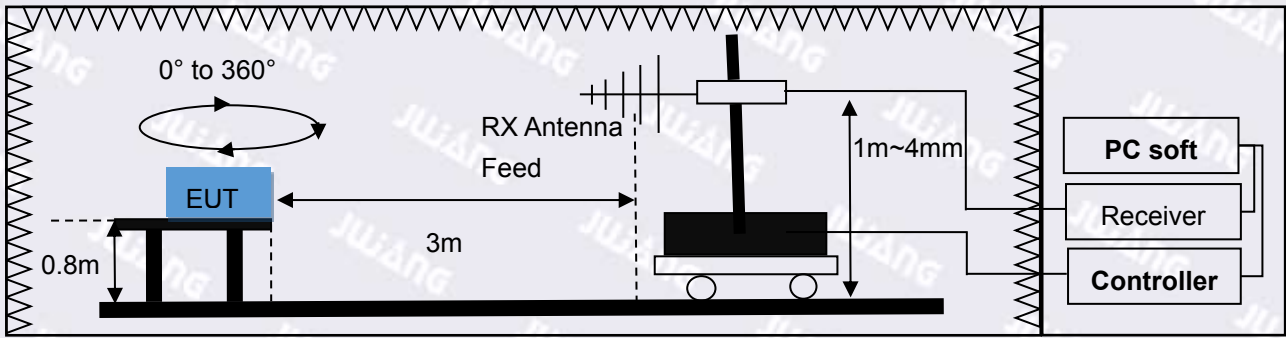
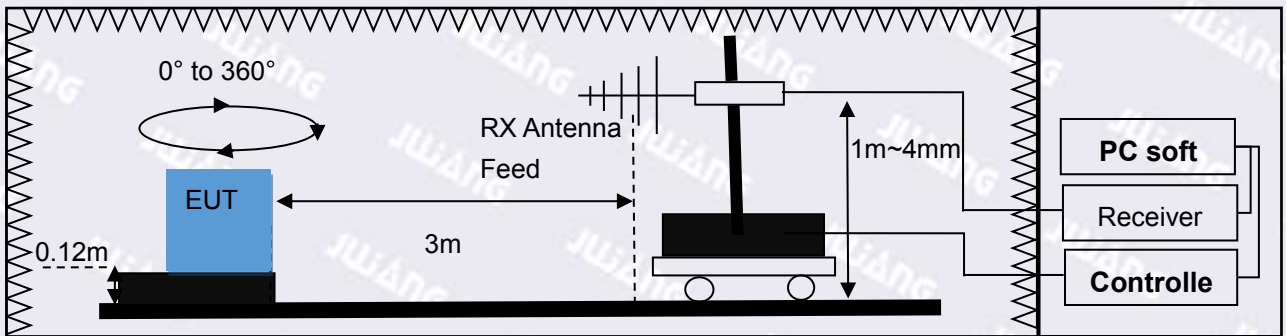

Figure 5-2 Test set-up of radiated disturbance(30MHz-1GHz)
Figure 5-3 Test set-up of radiated disturbance(30MHz-1GHz)
- b) The EUT was placed on the top of a table 0.8 meters above the ground at 3-meter SAC as figure 5-2 or 0.12m above the ground at 3-meter SAC as figure 5-3.